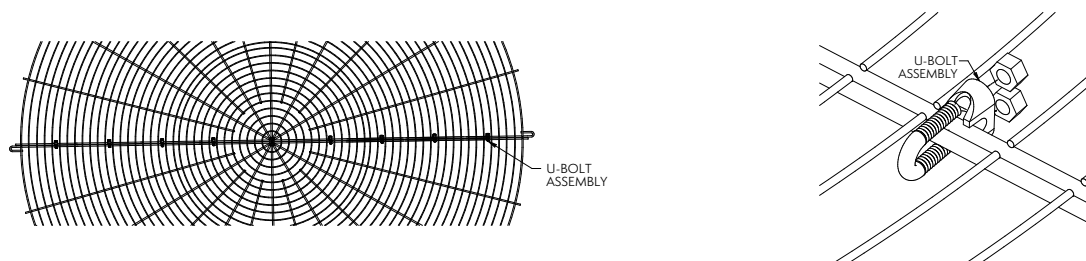

Figure 12 –U-Bolt Assembly Spacing & Arrangement
3. Join the two screen halves with "U" bolts, as shown in **Figure 12**.